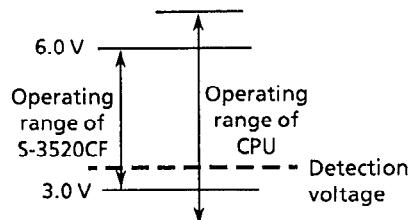
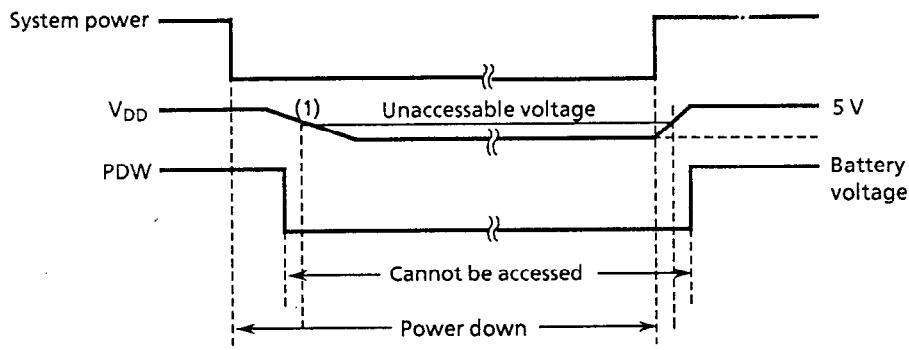

Figure 11 Setting of detection voltage at power down of system power
Figure 12
When using the S-3520CF with system power and backup battery power, power-down detection and power supply voltage range where the S-3520CF can interface with a CPU is 3.0 to 6.0 V. To prevent a malfunction, design a circuit so that the S-3520CF cannot be accessed when V_{DD} is higher than 3.0 V and higher than the minimum operating voltage of the CPU (see Figure 11). As in Figure 12 on the next page, moreover, design so that the PDW goes low before V_{DD} falls to (1) and goes high after system power returns and V_{DD} rises to (1).
(1) Minimum operating voltage of the CPU ≥ 3.0 V
(2) Minimum operating voltage of the CPU < 3.0 V